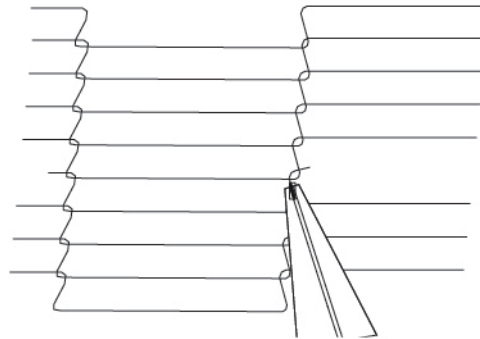

Figure 51.
- Reconnect the inside master links (Figure 51).